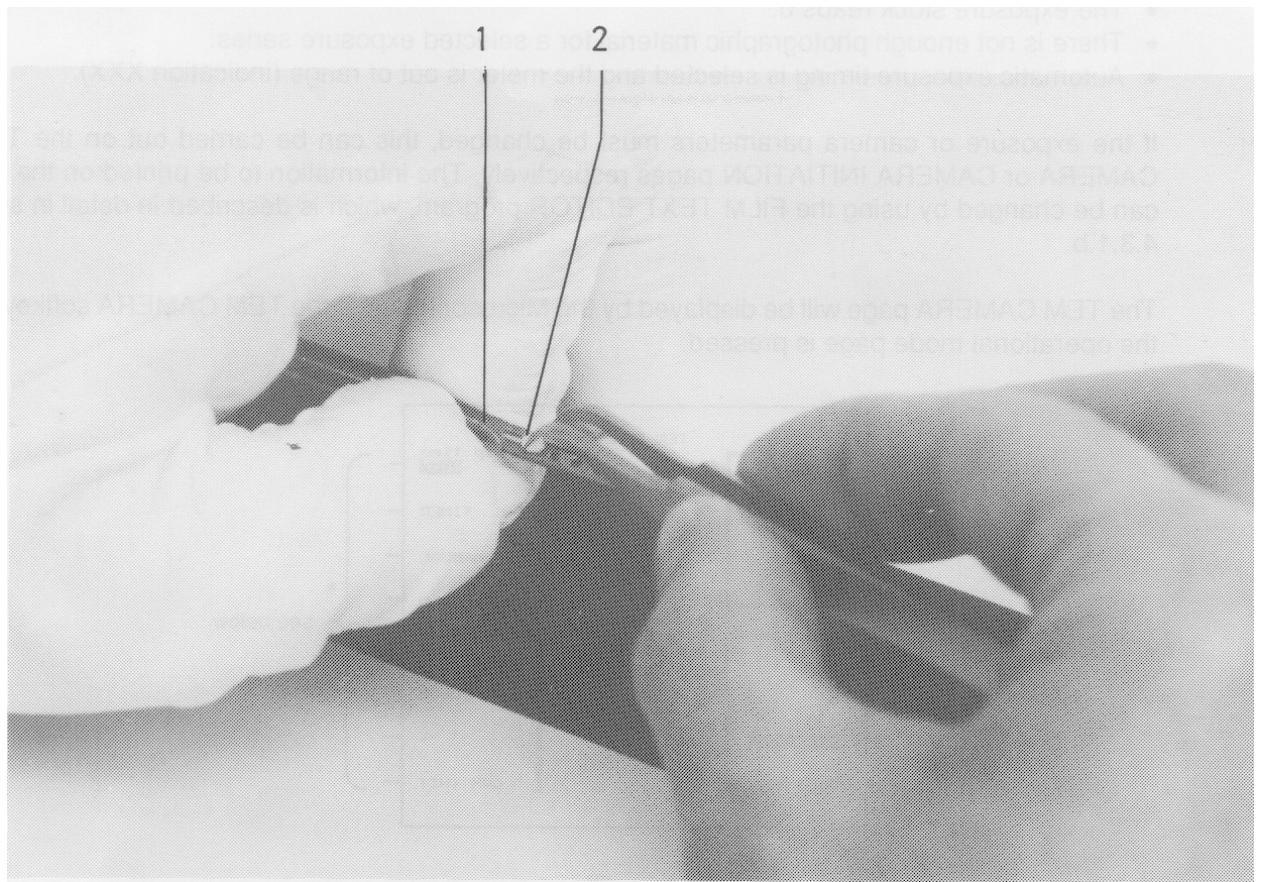
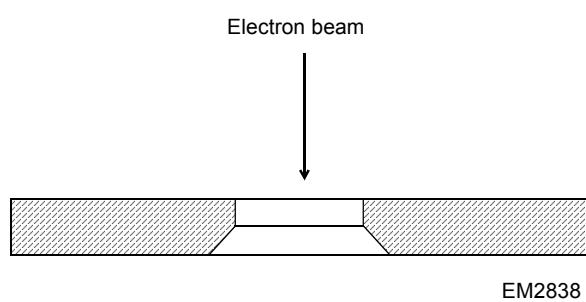

Fig. 4.1, Changing apertures
Fig. 4.2, Aperture cross-section showing profile of aperture
1. Take the holder in one hand as shown in Fig. 4.1.
2. Using the thumbnail, push the ring (1) against the spring to the left.
3. Raise the tip of the holder slightly and tap gently to allow the aperture to slide down the guide towards the opening (2).
4. Using tweezers in the other hand, take the apertures out through the opening (2). Take care not to damage the apertures with the tweezers.
5. Apertures are replaced by reversing the above procedure, taking care that the plain side of the aperture, in each case, is facing upwards towards the electron source and the conical side downwards (Fig. 4.2).